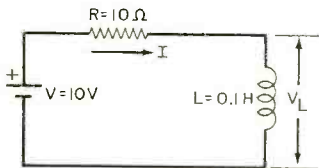

Fig. 5
Ex. 3. Referring to Fig. 5, determine the current I at (a) $t = 0$ and (b) $t = \infty$. (c) What is the time constant for the circuit? *Sol.* (a) $I(0) = 0$. (b) $I(\infty) = V/R = 10/10 = 1$ A. (c) $T = L/R = 0.1/10 = 0.01$ s = 10 ms.
Ex. 4. For the circuit in Fig. 5, find the voltage across the inductor, at (a) $t = 0$ and (b) $t = \infty$. *Sol.* (a) Because the inductor acts like an open circuit at $t = 0$, $V_L(0) = 10$ V. (b) Because the inductor acts like a short circuit in steady state, $V_L(\infty) = 0$.
D. Functions of Time. For times between $t = 0$ and $t = \infty$, the current and voltage as functions of time for the circuit in Fig. 5 may be expressed by: $i(t) = (V/R)(1 - e^{-tR/L})$ and $v_L(t) = V e^{-tR/L}$.